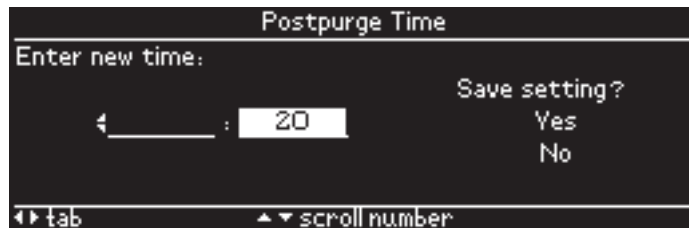

Fig. 71. Commission Postpurge time
- Valve Proving (VP) when option – see next figure
- Postpurge time – see Fig. 71
- Valve Proving (VP) time commission (when VP is not disabled) – see next figure
- Postpurge time commission (when VP is disabled *and* postpurge time is supported in BC) – see Fig. 71
- Postpurge time commission (when postpurge time is supported in BC) – see Fig. 71